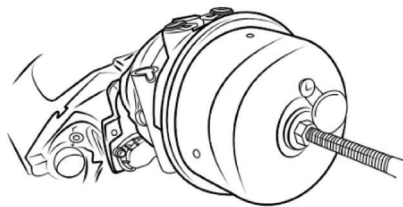

Figure 42 - Parking brake chamber
5. Turn release bolt clockwise (1/4 turn) to lock its head in the "T-slot" receptacle of the brake chamber (**Figure 42**).